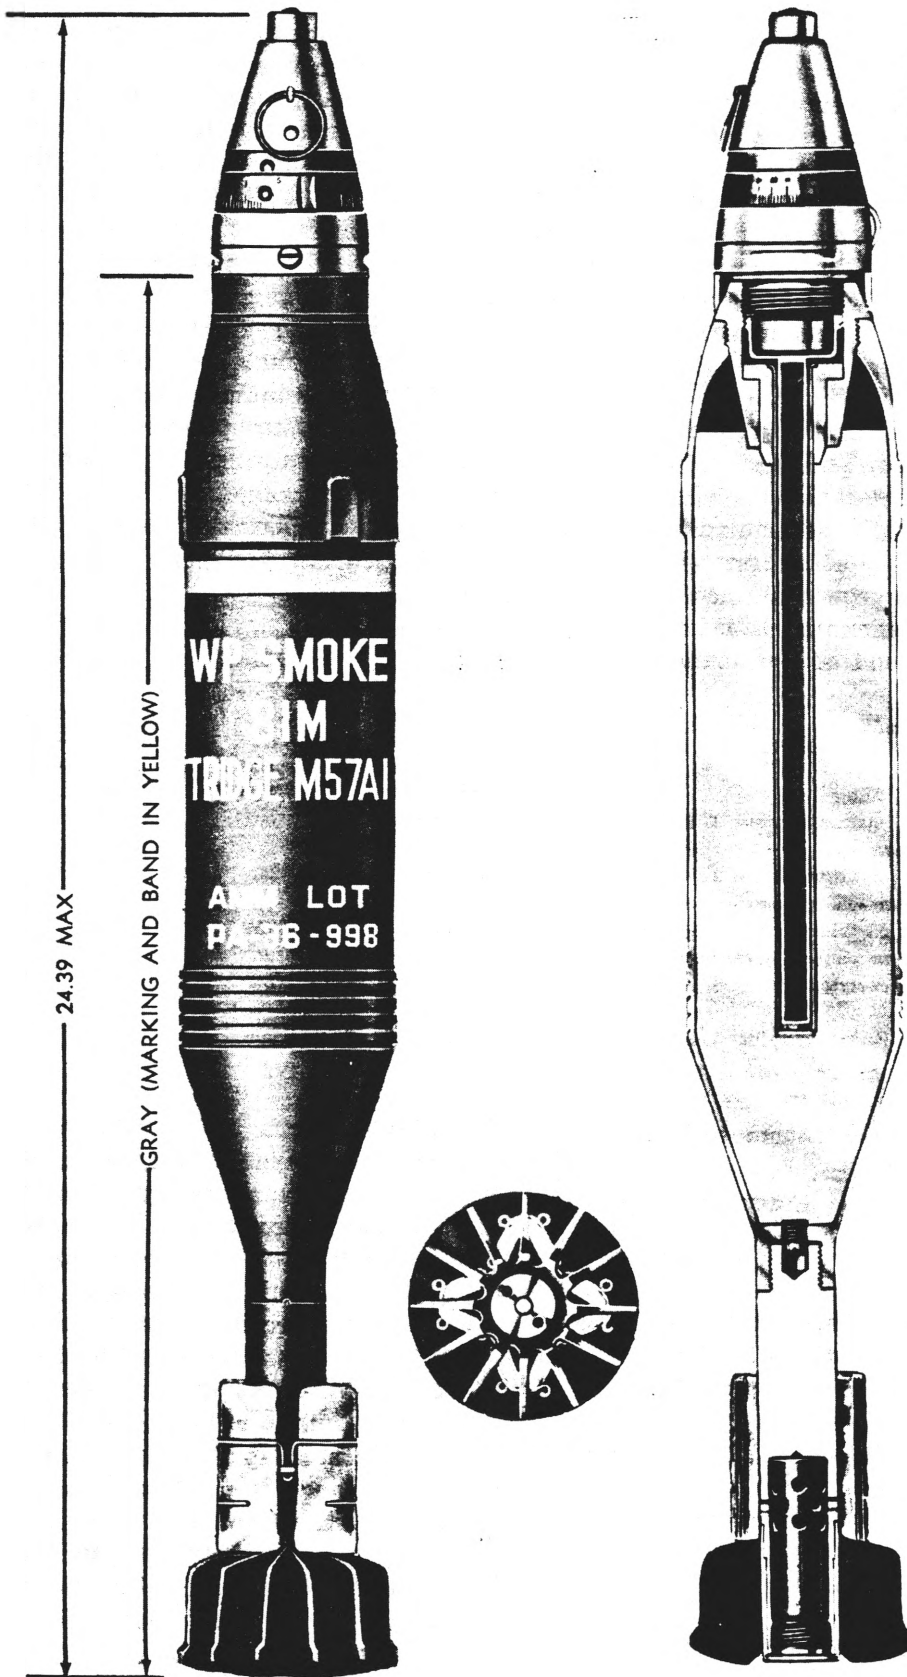

Figure 10. Cartridge, 81 millimeter: Smoke, WP, M57.11, w/fuze, TSQ, M77.
a. *General.* The WP cartridge M57A1 (fig. 10) is intended for producing a screening smoke. The complete round consists of a relatively thin-walled steel projectile body containing a white phosphorous smoke filler, a point fuze, a fin assembly M4A1, propellant increment charges M2A1, ignition cartridge M6, and percussion primer M34. The nose of the projectile is provided with a steel adapter which serves as a seal for the chemical filler and as a seat for the burster assembly. The burster assembly consists of burster charge M1 and burster casing M2. The burster charge M1 is a thin-walled steel tube